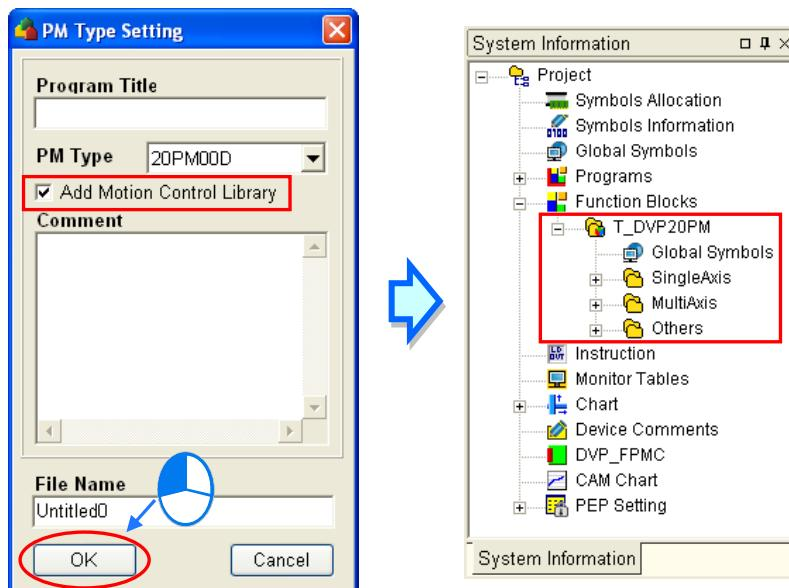

Figure 13-18 Adding motion control libraries
- When users create a project, the **Add Motion Control Library** checkbox in the **PM Type Setting** window is selected by default. After the users click **OK**, all Delta libraries will be added to the **Function Blocks** section, as shown in figure 13-18.